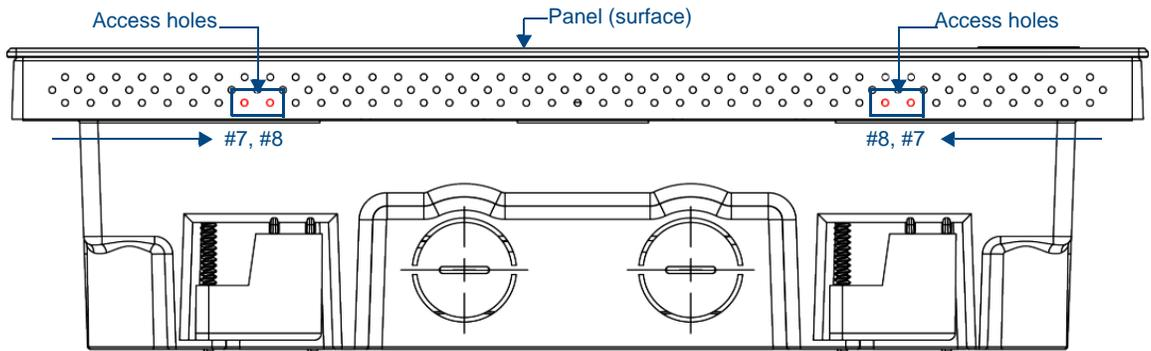

FIG. 24 Bottom View (Landscape) or Right-Side View (Portrait) of the MXD-1000 showing access holes in molding
2. On the bottom (Landscape) or right side (Portrait) of the MXD-1000, locate the **seventh and eighth** ventilation holes from each edge, on the row closest to the Backbox (FIG. 24): .